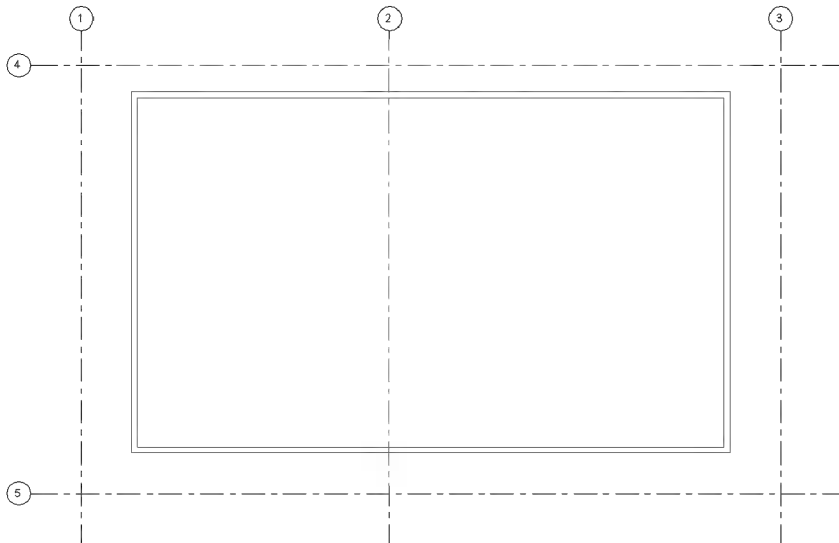

FIGURE 2-1.6 Grids added
9. Draw another vertical grid approximately centered on your building. BEFORE YOU PICK THE FIRST POINT, make sure you see a dashed cyan reference line indicating the grid line will align with the previous grid line (you will see this before clicking the mouse at each end of the grid line), then go ahead and pick both points (Figure 2-1.6).
10. Draw the remaining grid lines shown in Figure 2-1.6. Again, do not worry about the exact location of the grid lines, just make sure the ends align with each other.